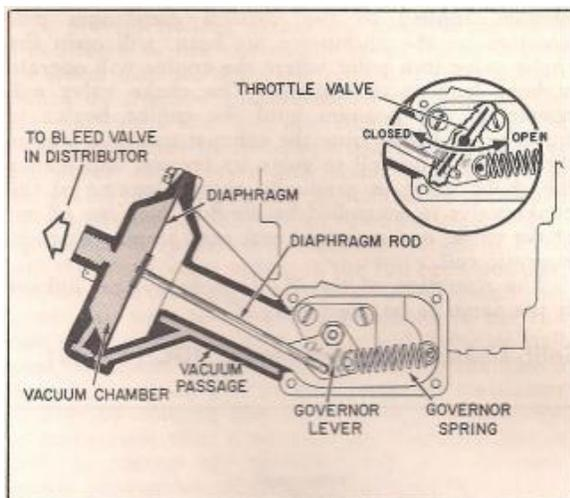

FIGURE 14
VACUUM CONTROLLED GOVERNOR Operation (Figs. 14 and 15)
1. A vacuum diaphragm and connecting linkage mounted on the carburetor throttle body. Fig. 14.